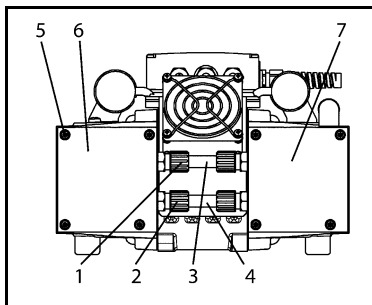
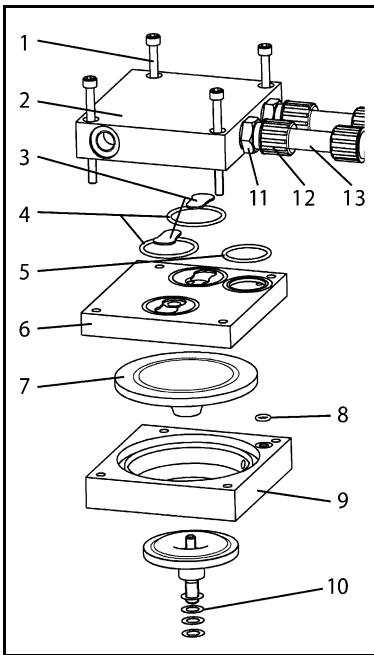

Fig. 16: Removing pump head (example N 940.5 APE)
Fig. 17: Replacing diaphragm and valve plates (1. and 2. pump head)
1. At the pneumatic connections (3, Fig. 16) and (4) between the first and second pump head: Use pliers to loosen union nuts (1) and (2) by turning them counterclockwise.
2. At the first pump head (6, Fig. 16) mark the position of head plate (2, Fig. 17), intermediate plate (6) and adapter (9) relative to each other by a drawing line with a felt-tip pen. This helps to ensure proper assembly.
3. At the first pump head unscrew the four screws (1, Fig. 17) and remove the head plate (2). Intermediate plate (6) is visible.
4. Take off intermediate plate (6) from adapter (9).
Then use pliers to securely tighten (turn in clockwise direction) the two union nuts (12, Fig. 17) at the two pneumatic connections (13) between pump heads 1 and 2.